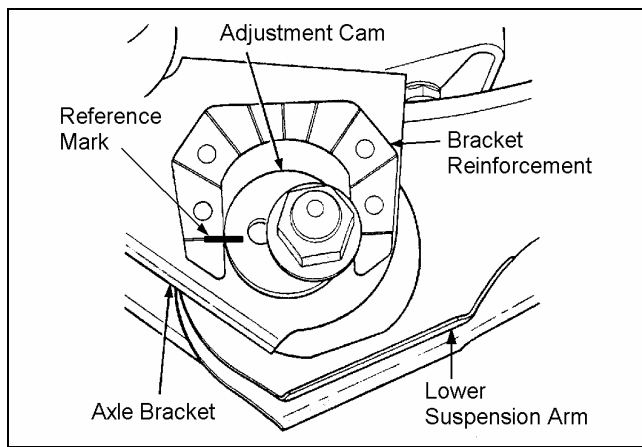

Figure 4
2) ☐ If applicable, paint or scribe alignment marks on the adjustment cams and axle brackets for installation reference. See Figure 4.